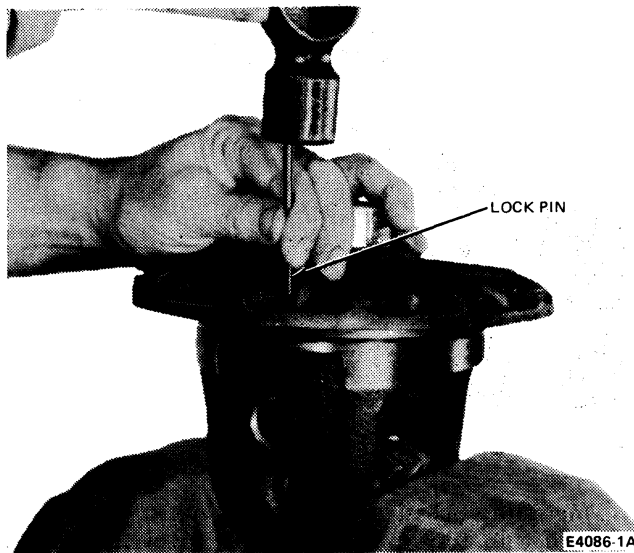

FIG. 17 Removing Lock Pin
9. Replace case in vise and drive out lock pin which secures the pinion mate shaft. Use a small drift as shown in Fig. 17.